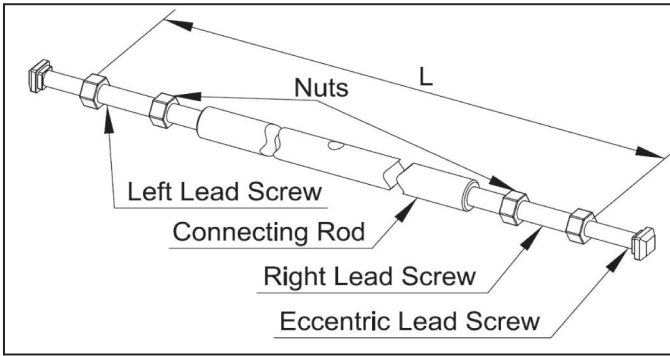

Fig. 6-12
1. Referencing Fig. 6-12, loosen the nuts as indicated in the diagram and adjust the spacing between the left and right lead screws, ensuring that the length (L) is slightly less than the table's width for easy installation.